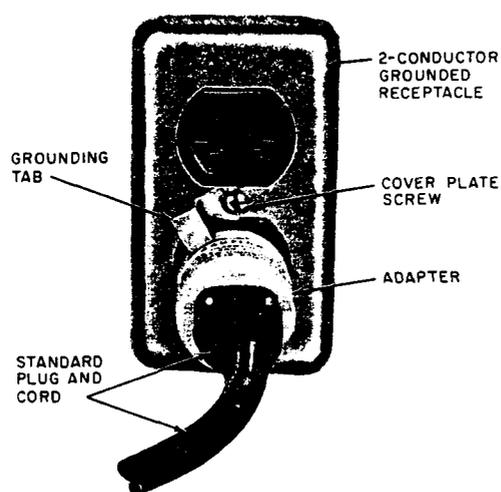

Fig. 10--Grounded 2-Conductor Receptacle
- 4.03 Two-Wire Receptacles-Grounded Outlet Box: Where a building is wired with metallic conduit, armored cable, or nonmetallic sheath cables with a grounding conductor, the outlet boxes should be grounded. When it is known that the outlet is grounded, an approved, properly placed adapter (Fig. 10) shall be used to extend the ground medium to the electrical device.